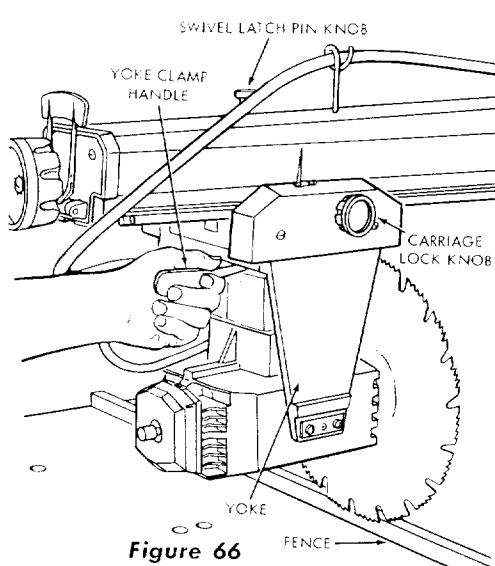

Figure 66
To test for looseness between the carriage bearings and tracks on radial arm, lock the yoke clamp handle (figure 66) grasp the motor and carriage assembly firmly with both hands and apply a firm rocking motion. If looseness exists, perform the following steps:
- (1) Set the yoke clamp handle to "Normal Locking Position" (figure 66) which is just slightly ahead of the mid-position of the handle.